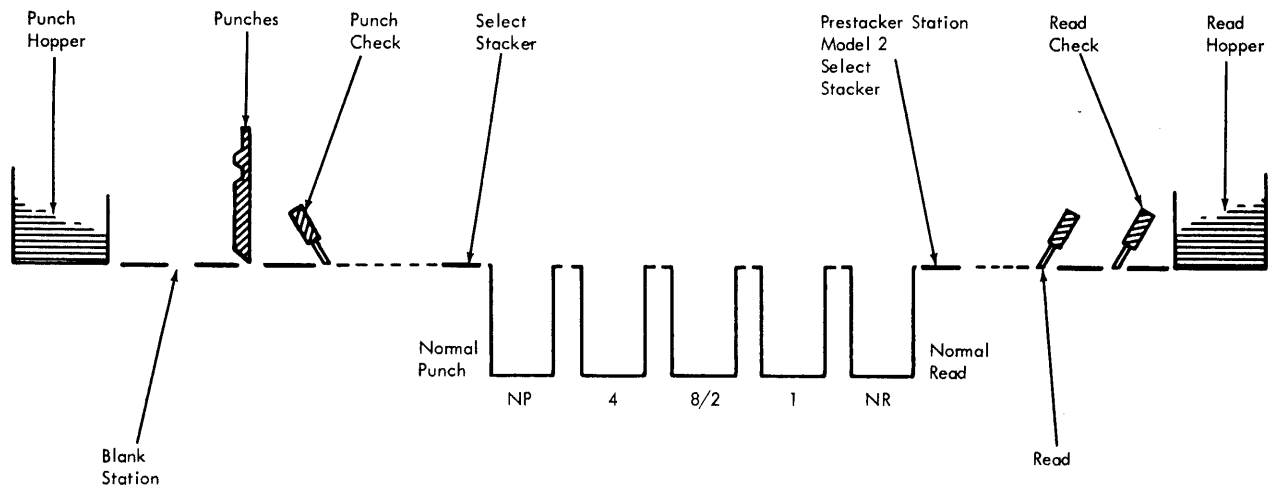

Figure 2. Card Feed Schematic
A card is read in three machine cycles. On the first cycle, the card moves from the read hopper to the read check station. During the second cycle, the card passes through the read check station, where a hole count is established, and stops at the read station. On the third cycle, the card moves through the read station, the hole count is proved, and data read from the card enters the processing unit's core storage or, in Model 2, the read buffer. In all models except 2, the card continues past the read station to the normal read (NR) stacker unless program-directed to stacker 1 or stacker 2 within 10 milliseconds after the read command. Model 2 has a separate prestacker station where the card just read can await stacker selection without a time limit (Figure 2).
A punch operation requires four machine cycles. The card moves from the punch hopper to a blank station on the first cycle. This blank station is reserved for the reading brushes associated with the Punch Feed Read special feature when that feature is installed on the 1402. During the second punch cycle, the card passes through the blank station and stops at the punching station. The card is punched during the third cycle; a hole count is established, and the card stops at the punch check station. On the fourth punch cycle, the card moves through the punch check station, where the hole count is proved, then passes into the normal punch (NP) stacker, unless program directed into another stacker (see Figure 2).